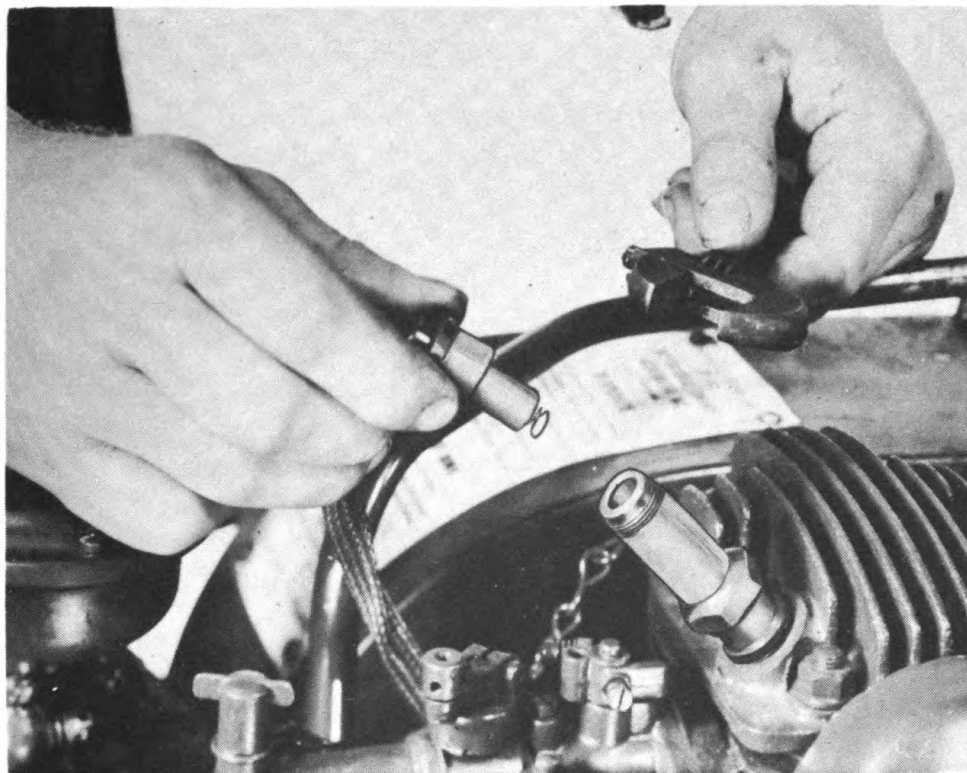
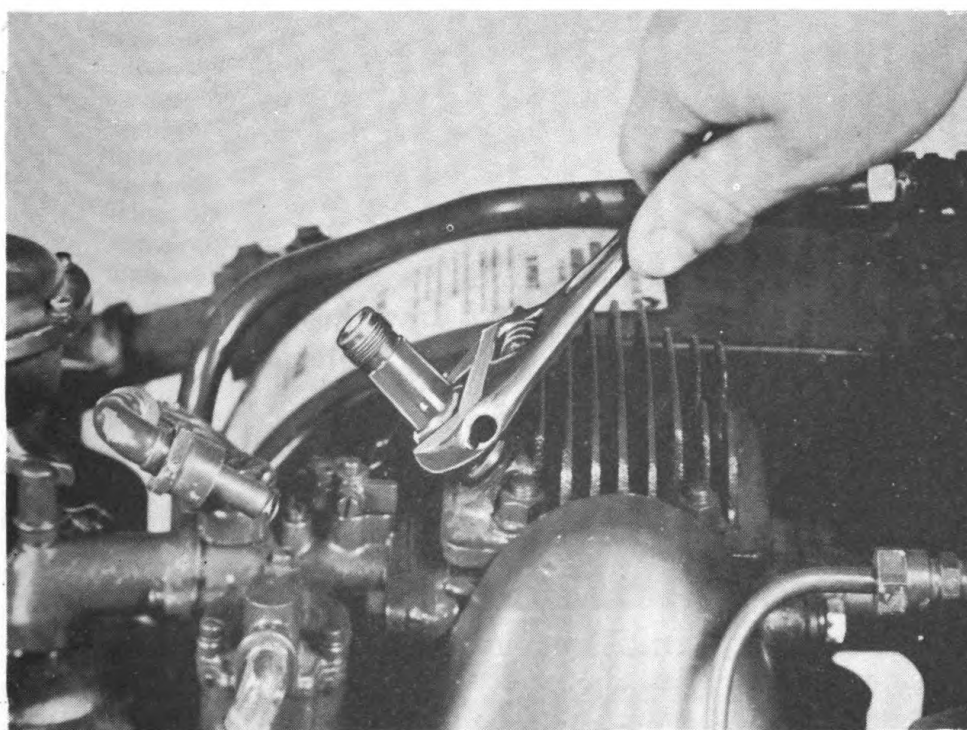
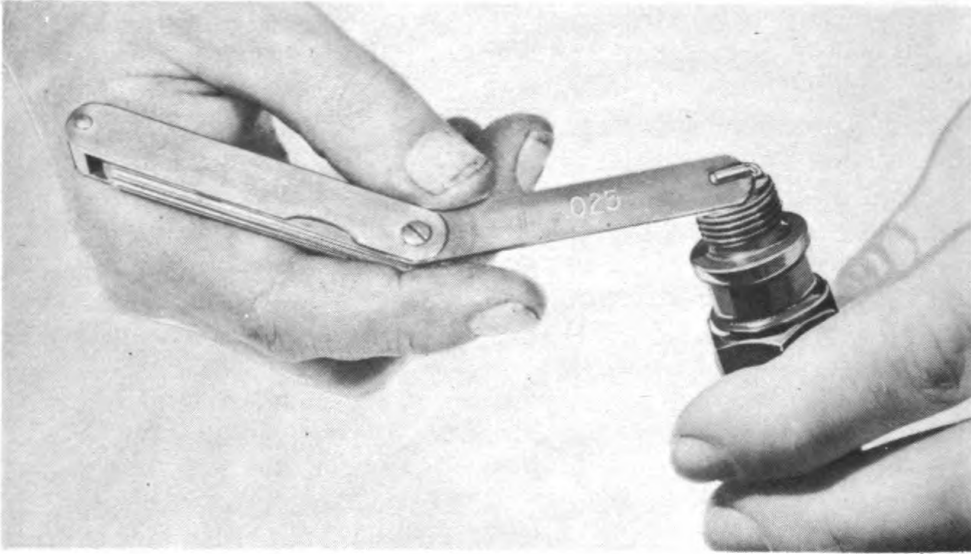

Fig 35. Detaching cable of engine spark plug.
Fig 36. Removing engine spark plug.
Fig 37. Regapping engine spark plug.
- a. **Engine spark plug.** Inspect and make necessary adjustments once a week. To do this, detach cable (fig 35), and remove spark plug as shown in figure 36. If plug has become fouled, scrape off carbon with knife or sandpaper. Check gap with gage issued to organizational motor mechanics. Gap should be .020 inch. Reset if necessary with motor mechanic's gage as shown in figure 37.